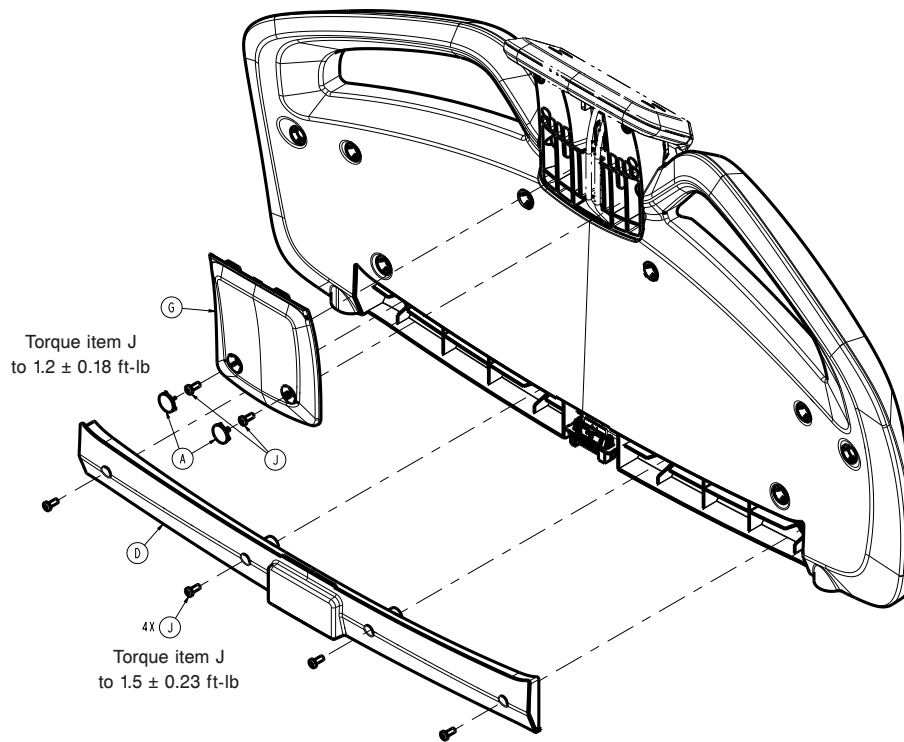

Figure 33 – Footboard housing
5. Using a pick, remove the two screw covers (A) from the back side of the footboard display housing (Figure 33). Discard the screw covers.
6. Using a T25 Torx driver, remove the two screws (J) that secure the display housing cover (G) to the footboard (Figure 33). Remove the display housing cover. Save the screws and display housing cover.